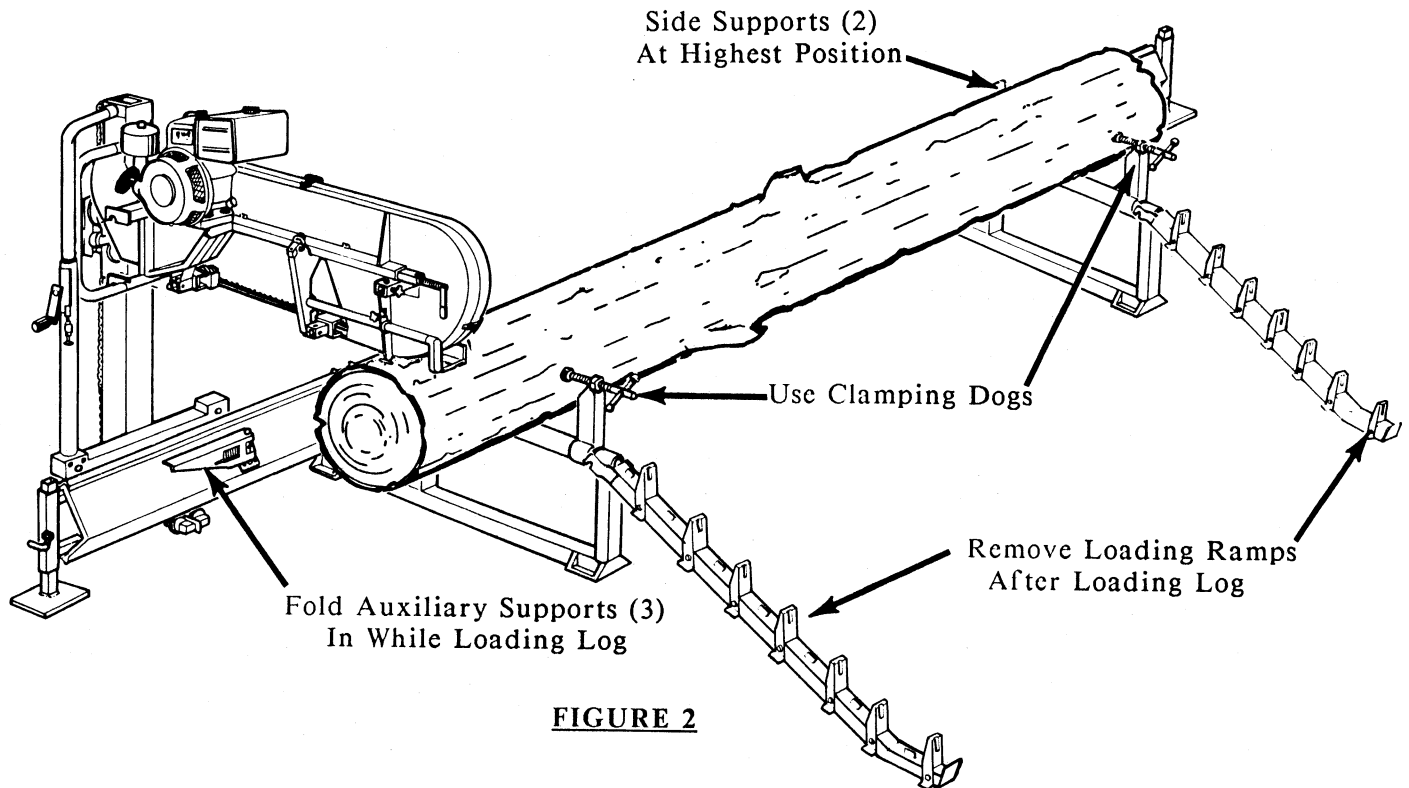

FIGURE 2
15. Load log onto the Log Decks. When loading logs, always have the side supports at their highest position to keep the log from rolling off the operator side of the lumbermill. Also, slide the clamping dogs completely to the outside edge of the log decks so they will not be pinned underneath the log once it is rolled into position. The auxiliary log supports (See Figure 2) are not designed to be used when squaring up the log. The auxiliary log supports are intended for use under cants that have a tendency to sag and should be folded out of the way when squaring a log.
17. Secure the log to desired angular position by clamping it in place with one or both of the clamping dogs located on the log deck (See Figure 2). The clamping dogs are typically required only when the log is resting on a rounded portion.